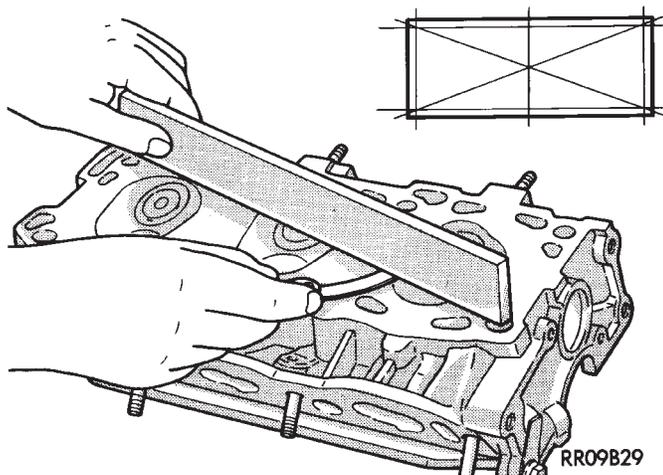

Fig. 8 Check Cylinder Head
(1) Before cleaning, check for leaks, damage and cracks.
(2) Clean cylinder head and oil passages.
(3) Check cylinder head for flatness (Fig. 8).
(4) Inspect all surfaces with a straightedge if there is any reason to suspect leakage. If out of flatness exceeds .019mm (.00075 inch) times the span length in inches in any direction, either replace head or lightly machine the head surface. As an example, if a 12 inch span is 1mm (.004 inch) out of flat, allowable is 12 x .019mm (.00075 inch) equals .22mm (.009 in.). This amount of out of flat is acceptable.